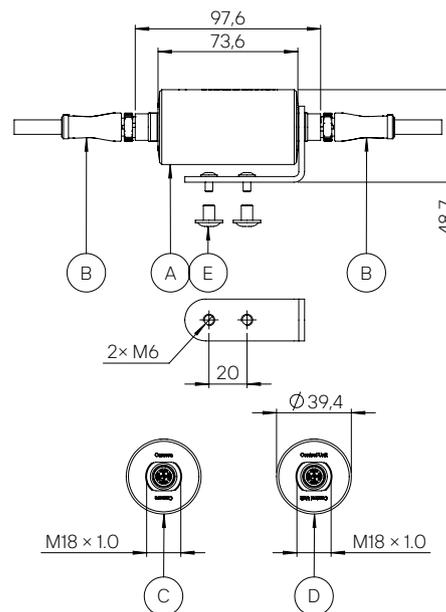

Figure 5
The length of the data cable connecting the camera head and the control computer is limited to 20 m (see chapter "Technical data" in the appendix). It is possible to extend this length with the Rotoclear C-Extender signal amplifier (Fig. 5-A). Up to two signal amplifiers per camera head can be used in the supply line. Each of these devices adds the maximum possible data cable length without signal amplifier: with one signal amplifier the maximum possible length is  $2 \times 20$  m, with two signal amplifiers the maximum possible length is  $3 \times 20$  m.
**⚠** Pay attention to the alignment according to the marked plugs. The data cable (fig. 5-B) connected to the side labeled "Camera" (fig. 5-C) must point towards the camera head. The side labeled "Control Unit" (Fig. 5-D) must point towards the HDMI unit.
**!** There are M18 × 1.0 male threads on the connectors, which can be used for mounting with the separately available holder. The mount is equipped with two M6 threads. M4 as well as M6 screws (fig. 5-E) are included for front or rear installation of the holder